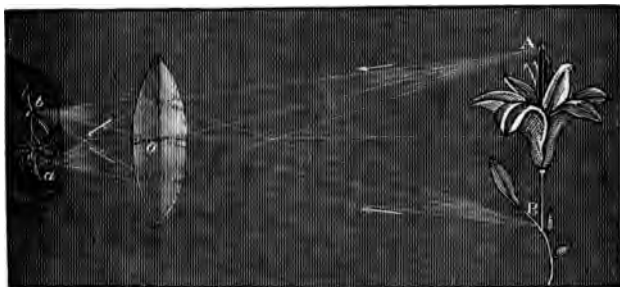

FIG. 170.—IMAGE BY CONVEX LENS. (SMALLER THAN OBJECT.)
292. **Image by Convex Lens.**—By the last article, *every* point beyond the principal focus of a convex lens has a conjugate focus on the other side of the lens (also beyond the principal focus). An illuminated object (AB, Fig. 170), placed beyond the focus of the lens (C), is made up of thousands of *points*. All rays of light from a given point, A, passing through any part of the lens, are brought to a point at A's conjugate focus, a. All rays from B are concentrated at b, and so for every other point of the object, AB.
293. Relative Size of Image and Object.—The last experiment establishes the important principle that *the relative sizes (linear dimensions) of image and object are in the direct ratio of their distances from the centre of the lens.* This is made clear by comparing Figs. 170 and 171. The farther